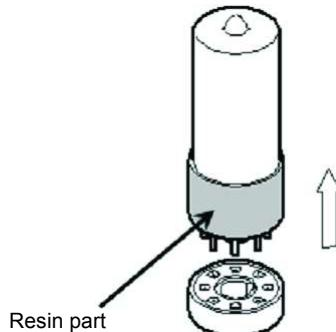

Fig.4-12
- 1 Wearing cloth gloves, hold the resin part of the D2 lamp (Fig.4-12), and slowly pull it straight up.